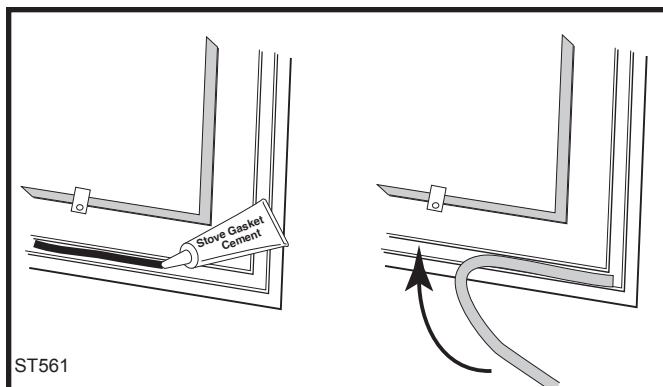

Fig. 40 Lay a bead of gasket cement then press gasket in place.
To adjust the latches, loosen the small lock nut, rotate the striker screw a half-turn, and re-tighten the small lock nut. (Fig. 40) Your stove kit includes an Allen wrench for latch adjustments. Hold the striker screw to keep it from turning as you tighten the lock nut. Make repeated small adjustments until the setting is right.
5. Lay an unbroken 3 mm (1/8") bead of gasket cement in the newly-cleaned channel. (Fig. 40)